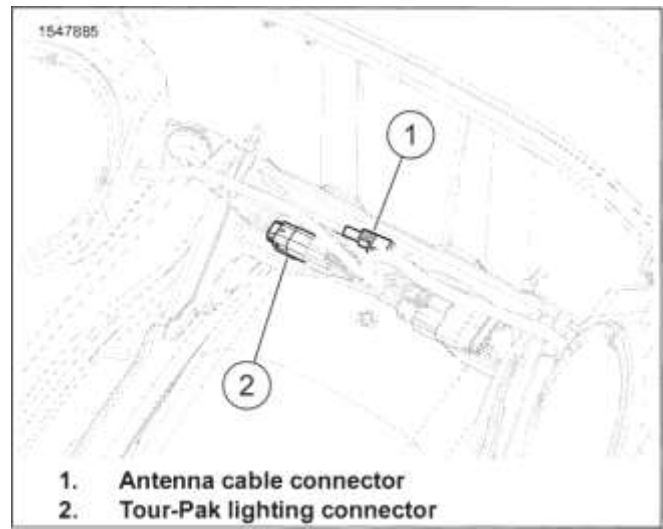

Figure 8-91. Rear Fender Lamps Harness and Antenna Cable Routing: FLHX, FLHXS, FLTRX, FLTRXS
- 3. See Figure 8-91. Disconnect antenna cable connector (1). Remove cable.
- 1. See Figure 8-91. Route antenna cable back along upper left frame, under frame cross member and through opening in left caddy. Continue along saddlebag support to antenna.